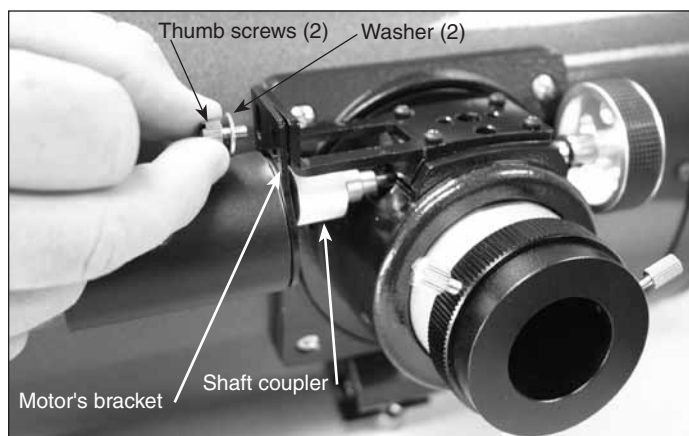

Figure 5. The two supplied thumb screws (with washers attached) connect the motor's bracket to the focuser bracket.
11. Insert the supplied thumb screws, with washers attached, through the slots in the motor's bracket and thread them into the focuser bracket (Figure 5). You may need to rotate the motor to do this. Tighten the thumb screws firmly with your fingers; you can also use a flat head screwdriver to tighten the thumb screws.